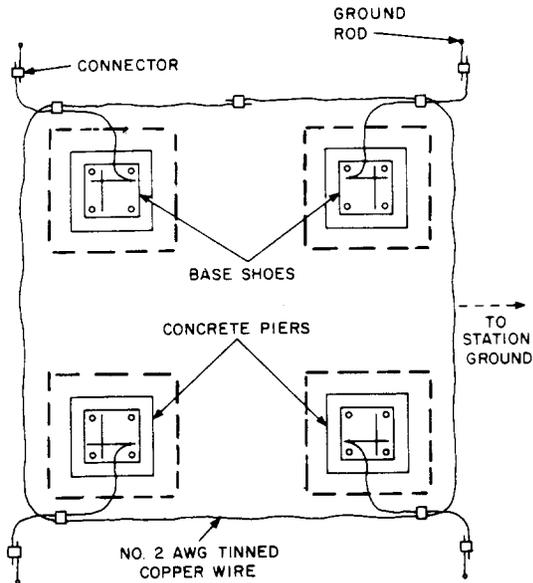
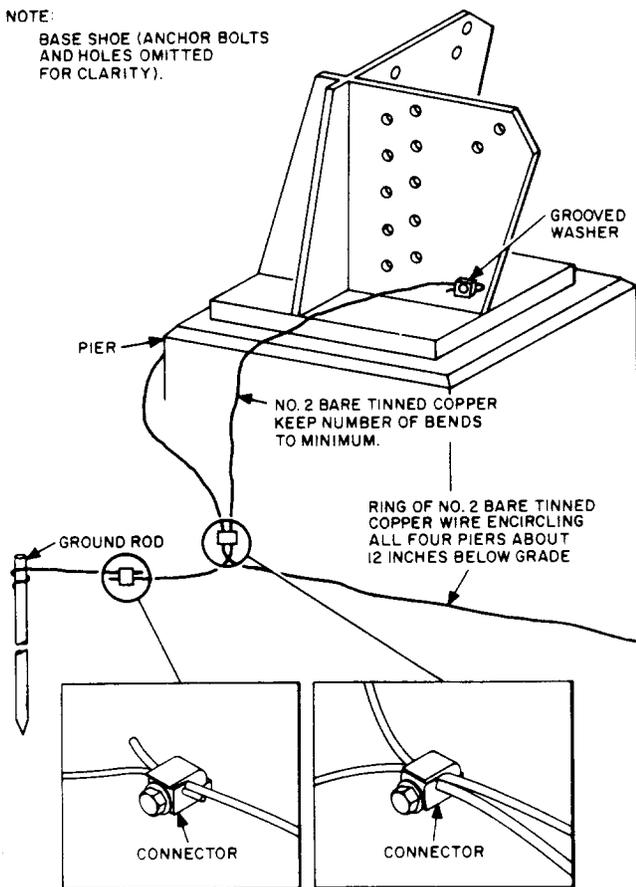

Fig. 3—Grounding System
Fig. 4—Grounding Connections
3.01 The method of grounding a self-supporting tower is illustrated in Fig. 3 and 4. As
shown in Fig. 3, one ground rod should be installed alongside each foundation. It should be located within 12 inches of the outer edge of the concrete mat, with the lower end of the rod driven at least 2 feet below the bottom of the mat. A length of No. 2 AWG bare-tinned copper wire is connected to the pigtail wire at the end of the ground rod with one of the connectors provided (see Fig. 4). The wire should be placed on the mat between the rod and the pier, and should be long enough to run vertically up the pier, with about 3 feet extra to make the connection to the base shoe. The end of the wire should extend 1 inch beyond the edge of the grooved washer and be temporarily fastened.
3.04 The connection at the base shoe is shown in Fig. 4, and must be painted over as described in 2.03.